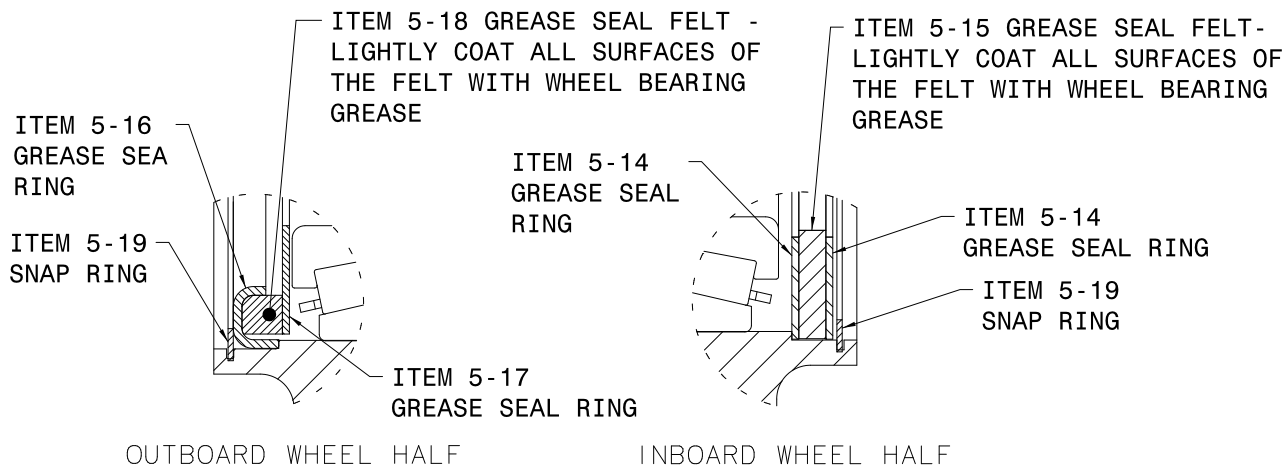

Figure 2, Installing the Grease Seal Components
- d. Refer to Figure 2 and install the following components in the outboard wheel half:
- e. Refer to Figure 2 and install the following components in the inboard wheel half: